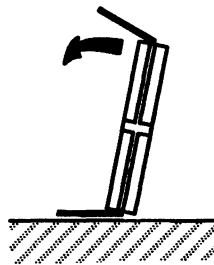

Figure 5-8 Straightening the Pins on the PROM Component
1. Look at the pins on the *original* PROM component (the PROM component you removed from the *failed* system board) to see if they are straight as shown in Figure 5-8. If they are spread too far apart or angled incorrectly as shown in Figure 5-8, you must straighten the pins as follows.
Lay the PROM component down on one side on a table, and carefully roll the component to bend the pins into line as shown in Figure 5-8. Once the pins are in line on one side, repeat this procedure with the other side of the component.